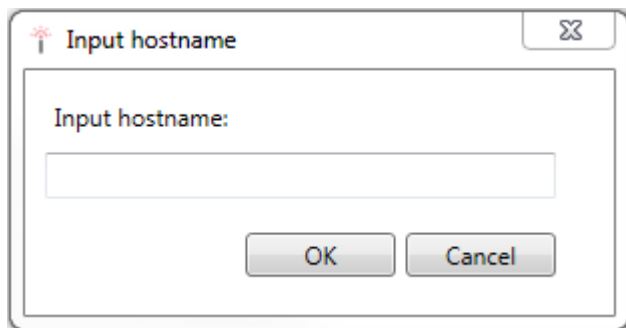

Figure 6.3 ItemTest - Input Reader Name
2. On the **Reader Settings** page, click **New** to add a new Gateway configuration. The **Input reader name** dialog opens, as shown in Figure 6.3.